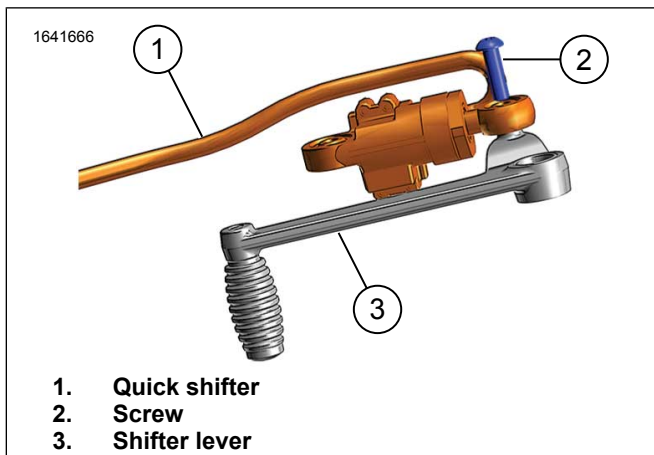

Figure 3. Install Quick Shifter to Shifter lever
1. See Figure 3. Assemble quick shifter sensor (1) to shifter lever (3) with screw (2). Tighten.